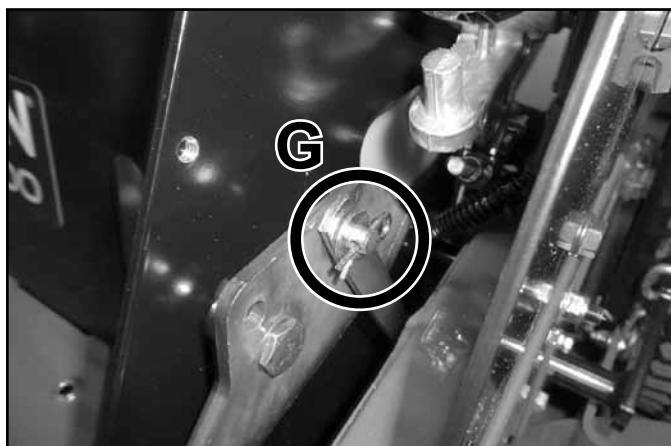

Fig. 024
10. Remove the parking brake pin and washer (G). Remove the parking brake links from the handle stud (Fig. 024).